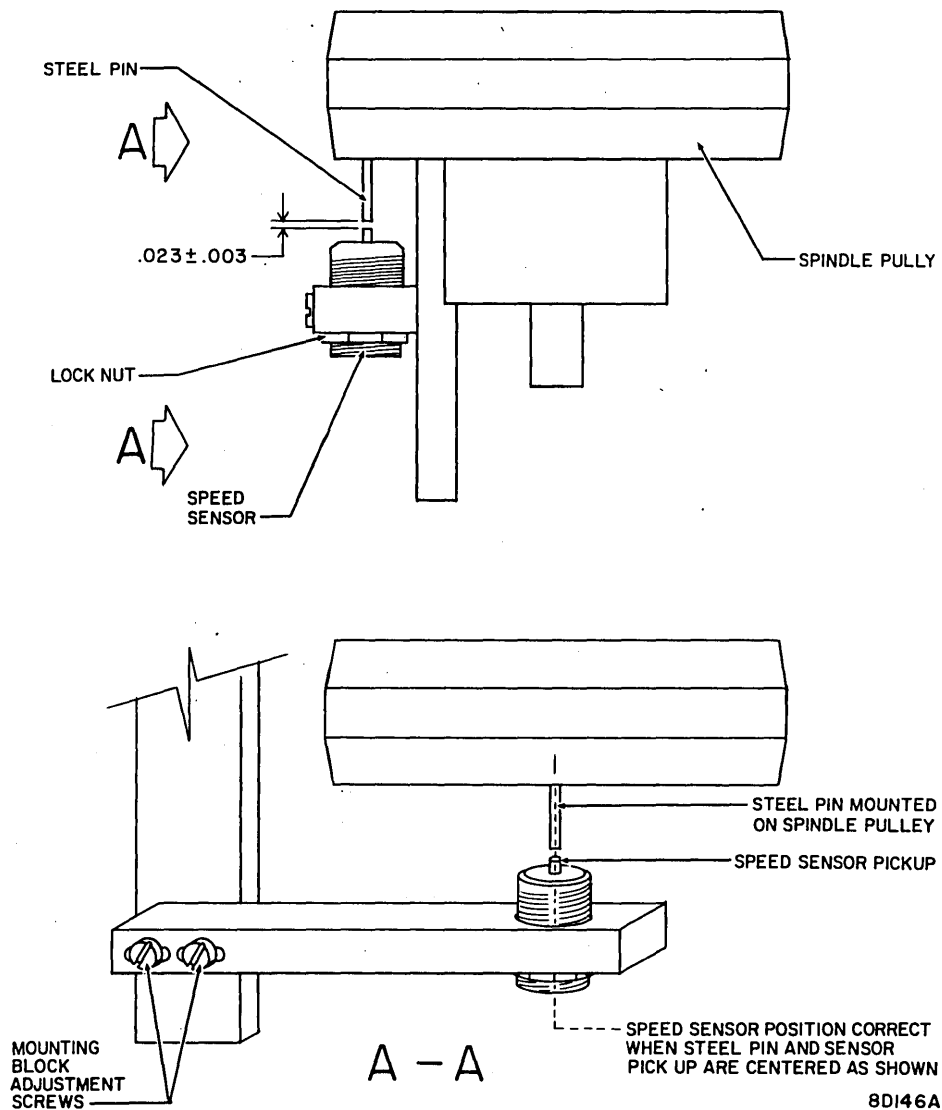

Figure 3-33. Speed Sensor Adjustment
3. Use feeler gage to check that gap between sensor tip and pin is 0.023 ± 0.003 inch (Figure 3-33).
- a. Check speed sensor lateral alignment per requirements of Figure 3-33. If required, loosen mounting block adjustment screws and position assembly. Tighten screws.
4. Loosen locknut on faulty speed sensor assembly (Figure 3-33). Remove assembly from unit.